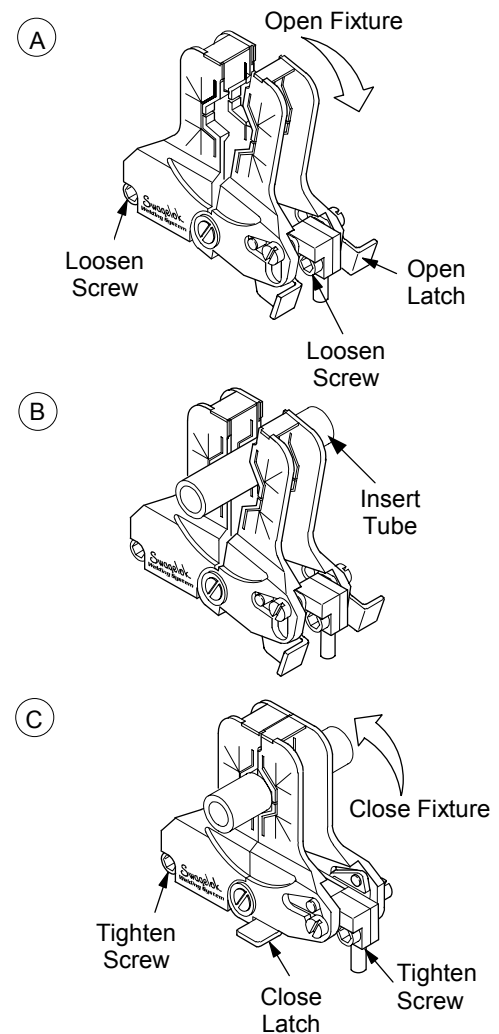

Figure 17 Aligning the Tubing in the Series 4 Micro Weld Head Fixture
1. Using the micro fixture tool, place the latch in the open position then open the fixture. See Figure 17(A).
2. Loosen the two alignment screws. See Figure 17(A).
3. Insert the tubing. See Figure 17(B).
4. Close the fixture and latch and then align the tubing. See Figure 17(C).
5. Tighten the two alignment screws. See Figure 17(C).